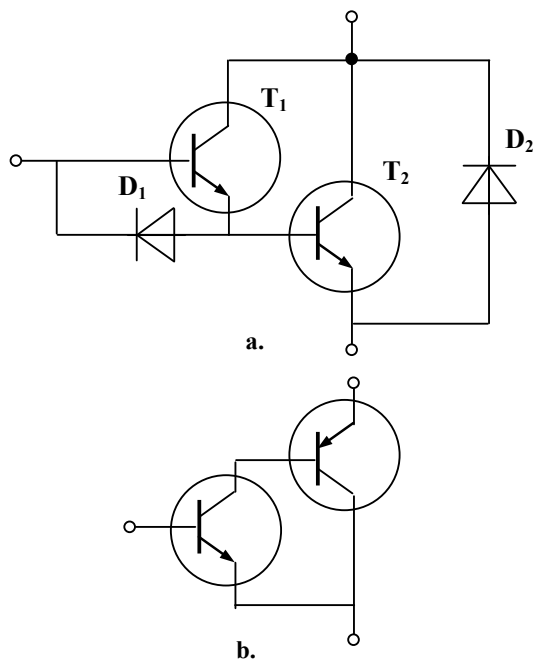

Fig. 1.30
**Darlington transistors.** Since the current gain of power bipolar transistors is small, two transistors are usually connected as a pair (Fig. 1.30,a). Such connection consists of the cascaded emitter followers. The emitter of the first transistor is connected to the base of the second one. A connected pair of bipolar transistors could raise the current gain of a power device. Commonly, this connection is designed monolithic because manufacturers put two transistors inside a single housing. This three-terminal device is known as a *Darlington transistor*. The summary current gain of such connection of two transistors  $T_1, T_2$  is expressed as
The complementary Darlington circuit shown in Fig. 1.30,b is a combination of the pair of bipolar transistors of different structures. Its current gain is equal to